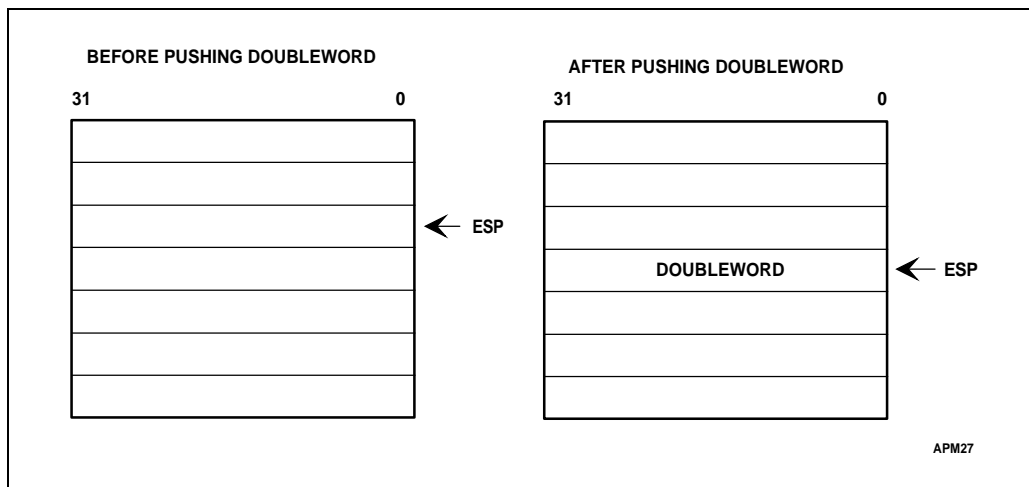

Figure 4-1. **PUSH** Instruction
**PUSH (Push)** decrements the stack pointer (**ESP** register), then copies the source operand to the top of stack (see Figure 4-1). The **PUSH** instruction often is used to place parameters on the stack before calling a procedure. Inside a procedure, it can be used to reserve space on the stack for temporary variables. The **PUSH** instruction operates on memory operands, immediate operands, and register operands (including segment registers). A special form of the **PUSH** instruction is available for pushing a 32-bit general register on the stack. This form has an encoding which is one byte shorter than the general-purpose form.